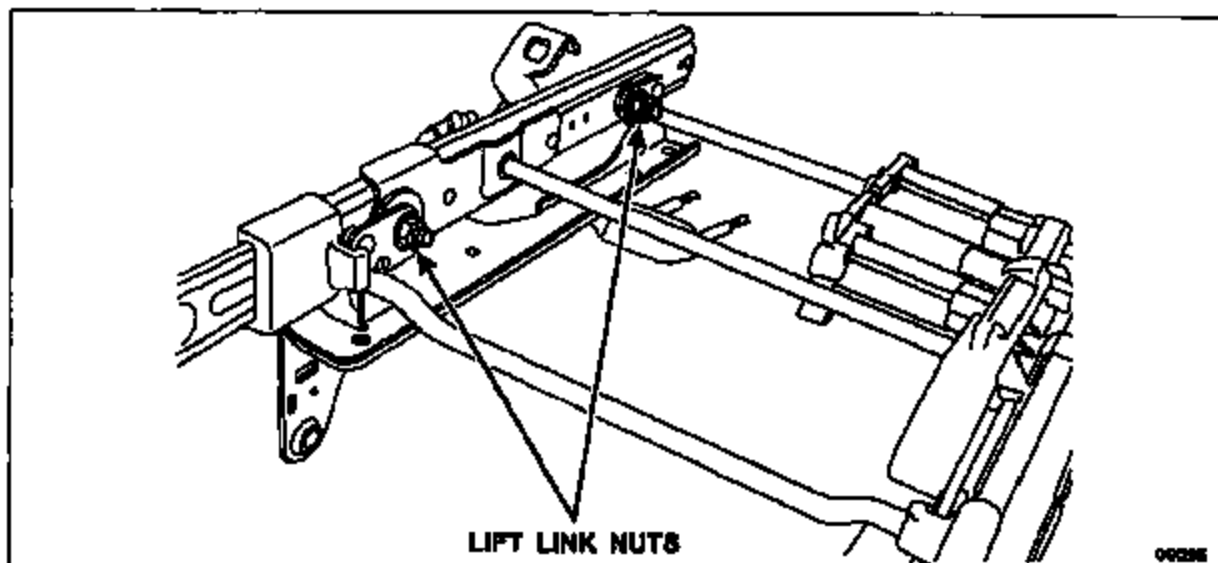

FIGURE 5
6. Remove the two (2) nuts at the lift links. See Figure 5.
- 13. Install the two (2) nuts holding the inboard track to the upper support assembly lift links. Tighten to 27 Nm (20 lb-ft). See Figure 5.